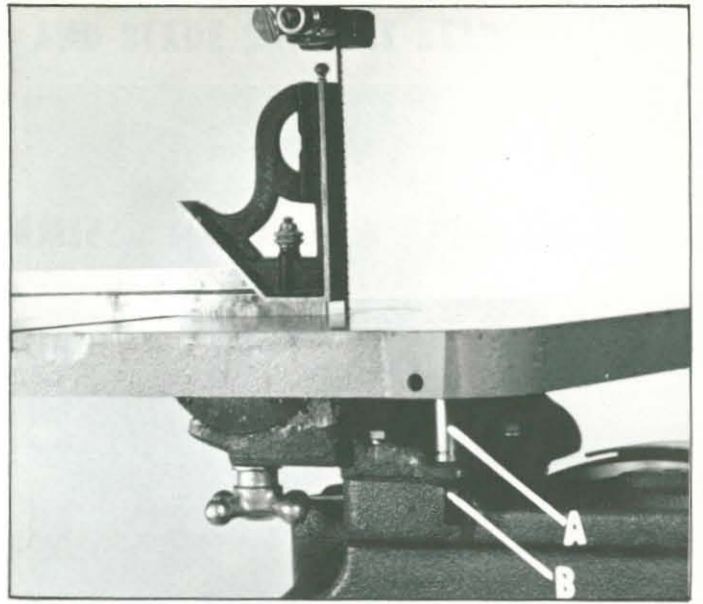

Fig. 16
On the back of the upper wheel slide bracket there is a series of graduations. These indicate the proper tension for various widths of blades. With the blade on the wheels, turn the star wheel (A) Fig. 16, to raise or lower the wheel, until the red fiber washer (B) is in line with the proper graduation for the size of blade being used.